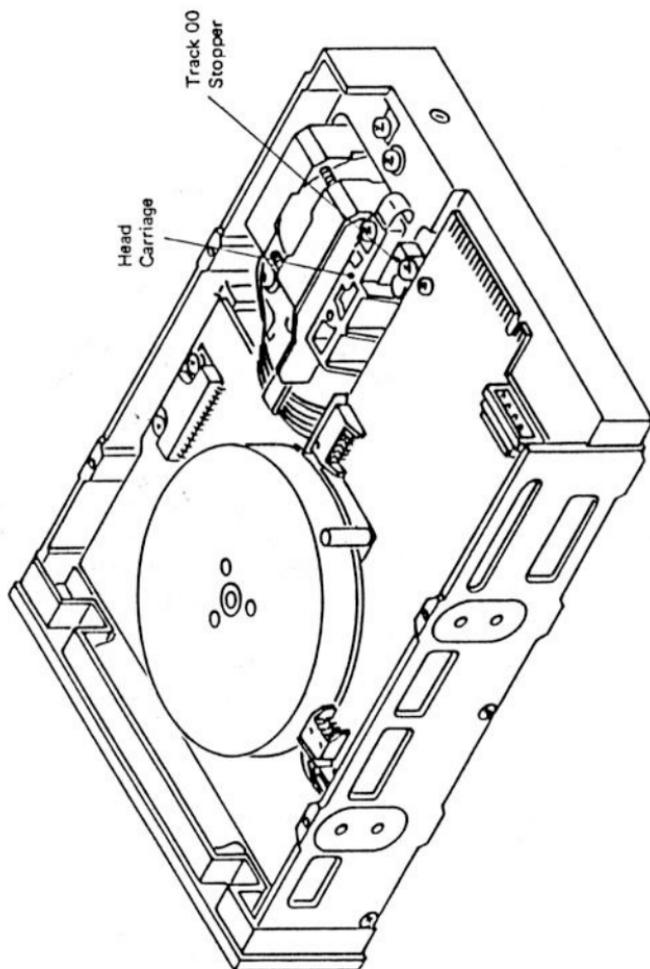

Figure 5.10 Track 00 sensor adjustment (stopper)
- Loosen the fixing screw of the track 00 stopper (see Figure 5.10).
Run Test A TRACK SEEK and position the head to track 00. Adjust the track 00 stopper to give a clearance of 0.25 mm \pm 0.15 mm (0.01 in. \pm 0.006 in.) between the stopper and the head carriage (see Figure 5.10). Tighten the stopper fixing screw and apply a small quantity of locking paint to the screw head.